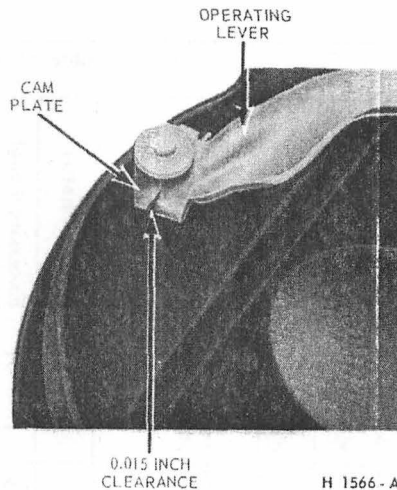

FIG. 2—Parking Brake
- On E-300 models the rear drums must be removed after the service and parking brakes have been adjusted. Check the clearance between the parking brake lever and the cam plate (Fig. 2). The clearance should be 0.015 inch with the brakes fully released. If the clearance is not within specifications, readjust the parking brake cable.